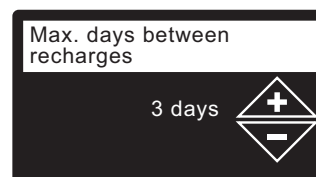

FIG. 26
21. **MAX. DAYS BETWEEN RECHARGES** Press the UP (▲) or DOWN (▼) buttons to set the number of days between automatic recharges (See Figure 26). The feature can be set from 1 to 99 days.